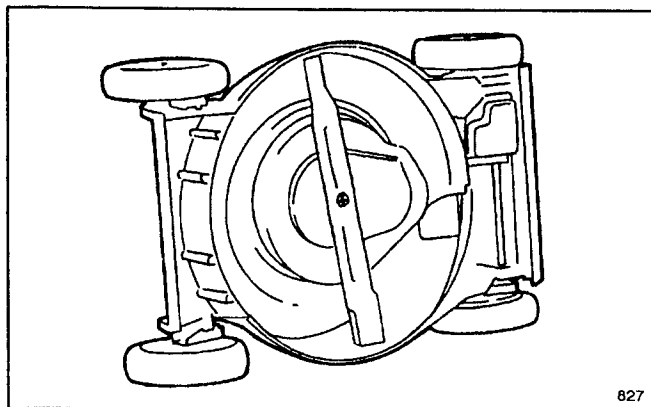

Figure 22
3. Tip mower on its right side (Fig. 22).